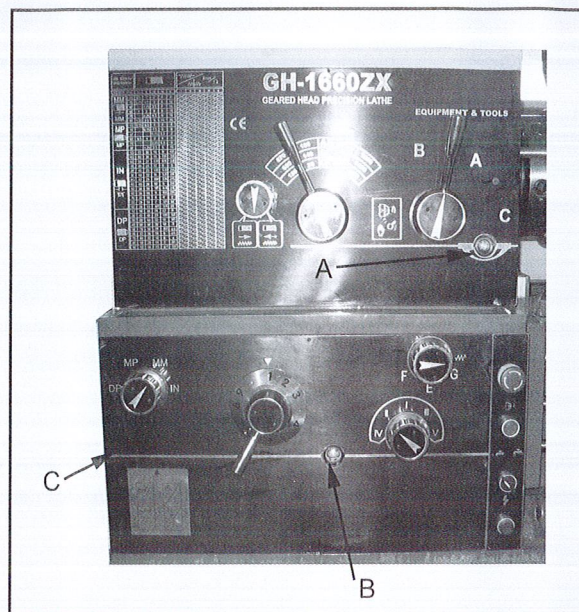

Fig.4
1. **Headstock** - Oil must be up to indicator mark in oil sight glass (A, Fig. 4). Top off with Mobil DTE® Oil Heavy Medium. Fill by removing the plug on the top of the headstock. To drain, remove drain plug on the left side of the headstock at the lower rear corner. Drain oil completely and clean out all metal shavings. Refill after the first month of operation. Then change oil in the headstock every two months.
2. **Gearbox** - Oil must be up to indicator mark in oil sight glass (B, Fig. 4). Top off with Mobil DTE® Oil Heavy Medium. To add oil to the gearbox, remove two screws on the top cover. To drain, remove drain plug (C, Fig.4) on the left side of the gearbox. Drain oil completely and refill after the first three months of operation. Then change oil in the gearbox every six months.